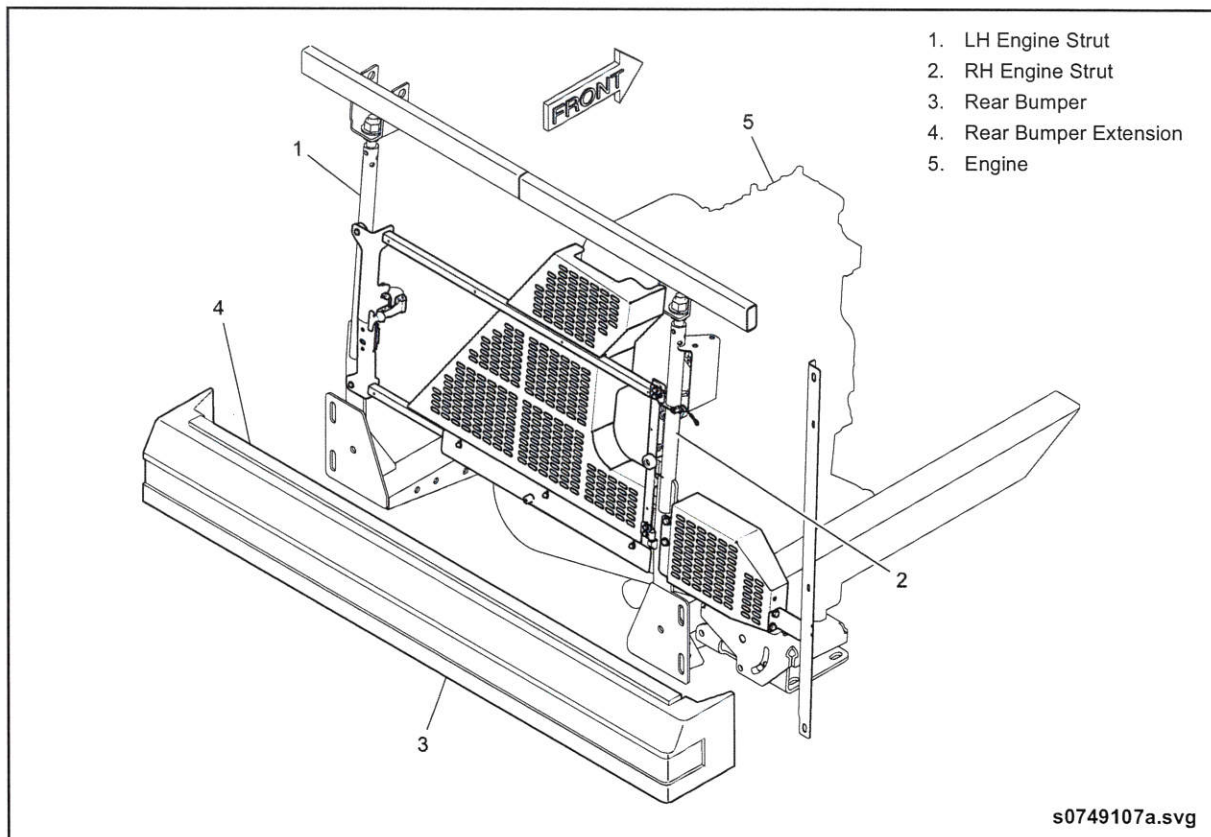

Fig. 4-2: Bumpers & Belt Guards
2. Unlatch the belt guard door and swing open. Remove cotter pins from upper and lower hinge pivots and lift off the belt guard. See "Fig. 4-2: Bumpers & Belt Guards" on page 5.